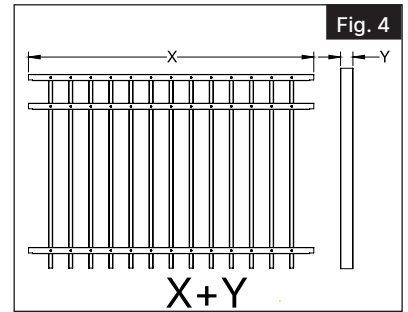

Fig. 4
Measure the width of the fence panel (X) plus the width of the post (Y). This is the common center-to-center measurement (unless there is a cut-down panel) for post hole location (Fig. 4).
After concrete has set, fasten the fence section to the posts using #10 × 1½" self-tapping screws (Fig. 4).